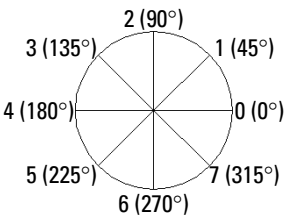

Figure 32-4: The codes for octant arcs.
- ♦ The seventh and eighth codes, (3,016), specify an arc with a radius of 3 that starts at octant 1 and covers 6 octants (to octant 7). (See Figure 32-4 to review the octant codes.)